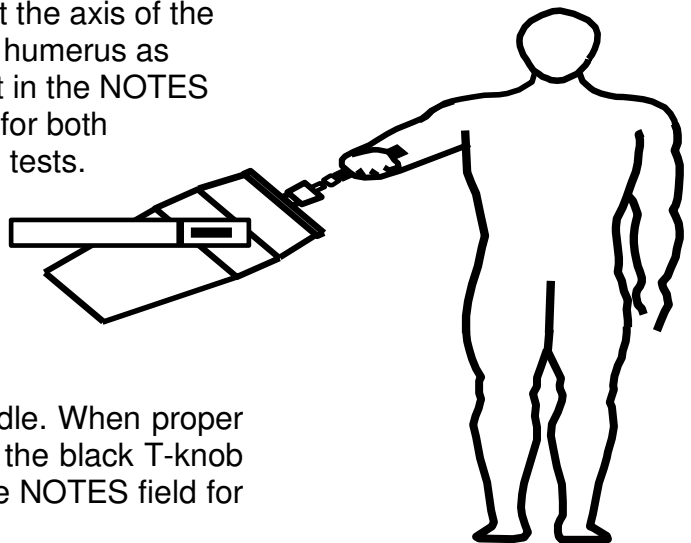

Figure 1
5. With the shoulder to be tested positioned in 45 degrees of abduction and the elbow in 90 degrees of flexion, adjust the height of the exercise head so that the axis of the exercise shaft is in alignment with the humerus as illustrated in figure 1. Enter the height in the NOTES field. The height should be the same for both shoulder internal and external rotation tests.
8. The test position is as follows: the subject should be standing with feet even in stance, flat on the floor, and shoulder width apart; shoulders should be level, adducted, and neutral with regard to rotation; the shoulder being tested should be at 45 degrees of abduction; the elbow should be flexed at 90 degrees; the forearm should be neutral; the wrist should be in neutral (0 to 15 degrees of extension) with some radial deviation; and the hand should be placed centrally on the handle. This position should be maintained throughout testing (Figure 1).